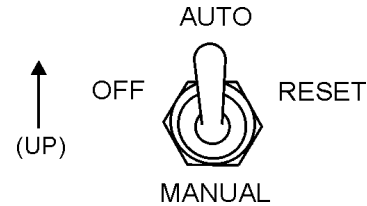

Figure 30. Off/Manual Auto Switch (AUTO)
2. Place the Off/Manual/Auto switch (Figure 30) in the **AUTO** position (up).